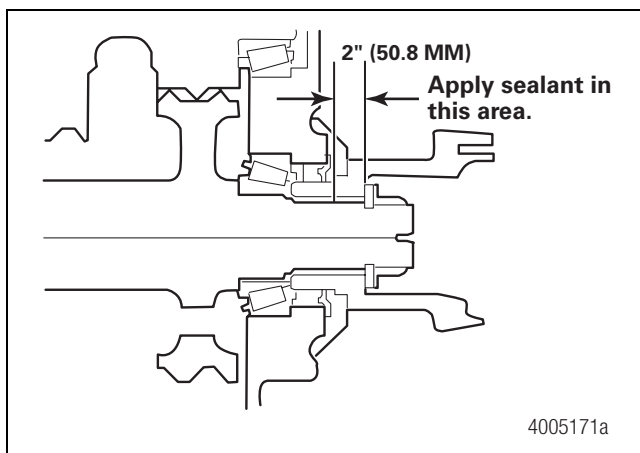

Figure 6.12
1. Before installing the yoke, clean the splines of old silastic. Apply a 1/8-inch (3.175 mm) bead of RTV 732 sealant 360 degrees around the outer two-inches (50.8 mm) of the yoke splines. Figure 6.12.